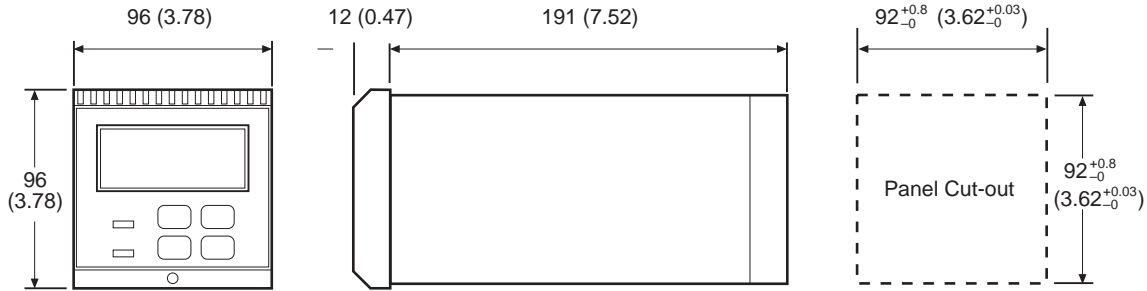

Fig. 4.1 Installation Dimensions – Model 4689 503 Display Unit
4.1.1 Model 4689 503 Display Unit – Fig. 4.1